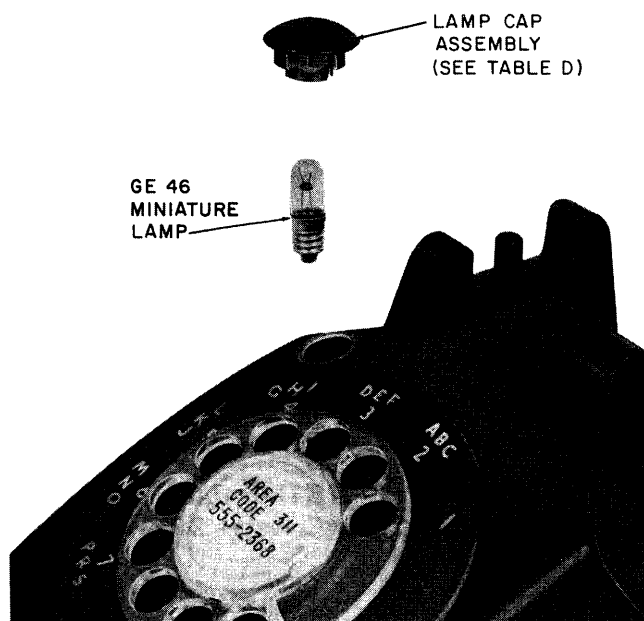

Fig. 12—500H (MD) Telephone Set, Lamp Assembly
- (1) Remove housing from set.
- (2) Remove cap (Fig. 12) from housing by removing screw and clamp located inside housing assembly, discard cap.
- (b) **Dial Light:** To remove, turn lamp cap and lamp counterclockwise (Fig. 12) and lift out.
| COLOR      | LAMP CAP (500H, FIG. 12) |           | CAP (514B AND BM, FIG. 7) |           |